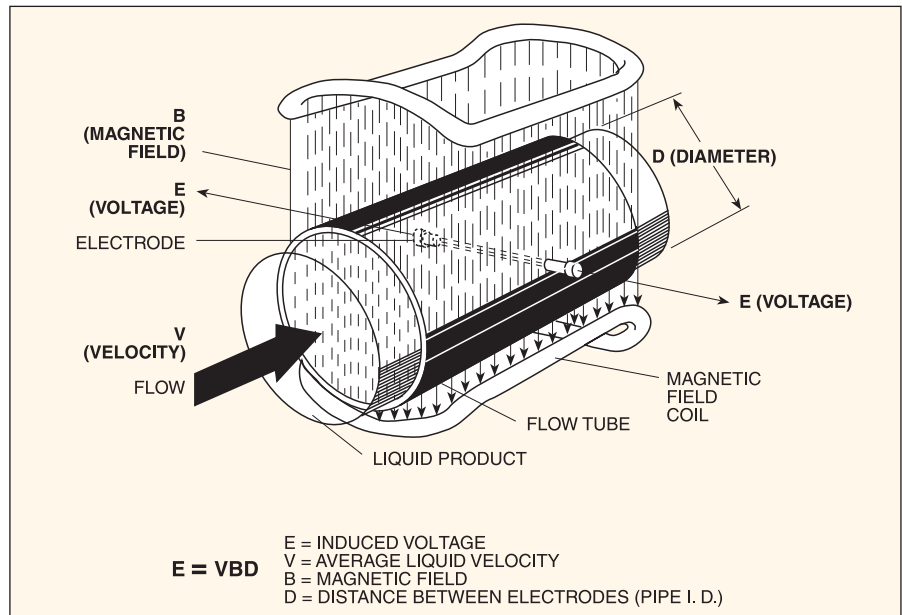

Figure 1: In-line magnetic flowmeter operating principle
the magnetic field strength (B) and the length of the conductor (D) (which in this instance is the distance between the electrodes). In the case of wafer-style magnetic flowmeters, a magnetic field is established throughout the entire cross-section of the flow tube (Figure 1). If this magnetic field is